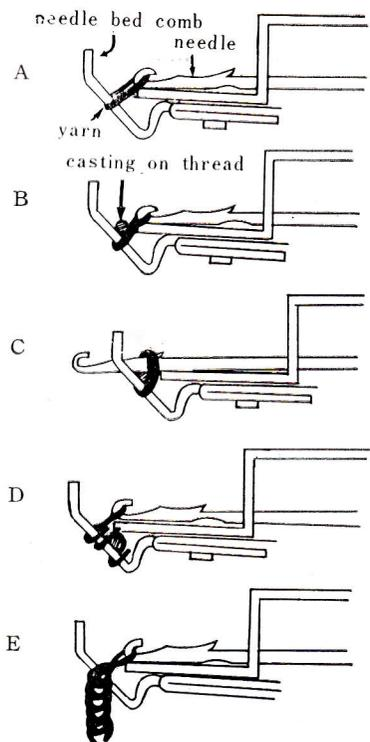

Fig. 21
- c. You can see that the hooks of needles hang the yarn like Fig. 21-A. Take out the casting on thread from the plastic kit, and across it on the loops of yarn between needle bed comb and hooks of needles.
- d. Hold the ends of casting on thread and pull down. (See Fig. 21 B)
- e. Move the carriage and knit 3 or 4 rows. (See Fig. 21-C)
- f. Pull out casting on thread. (See Fig. 21-D)
- g. You finished casting on now. (See Fig. 21-E)